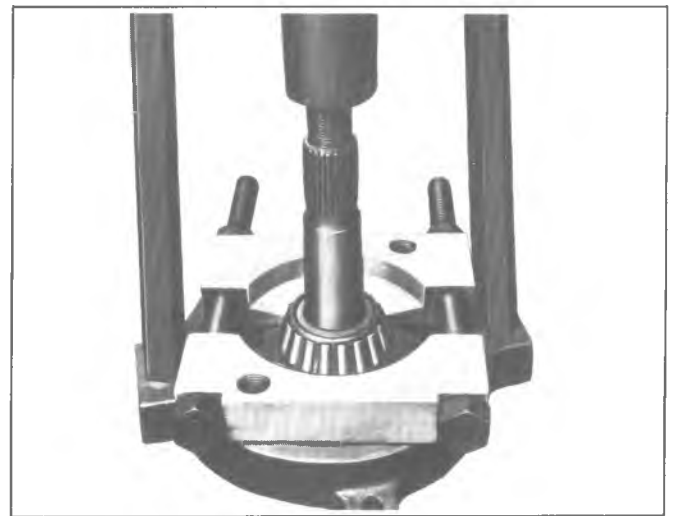

Fig. 20C--Removing Pinion Rear Bearing
3. Remove pinion rear bearing using Press Plates J-9771 in Holder J-0358-1 as shown in figure 20C. Remove and discard shim between bearing and gear head.